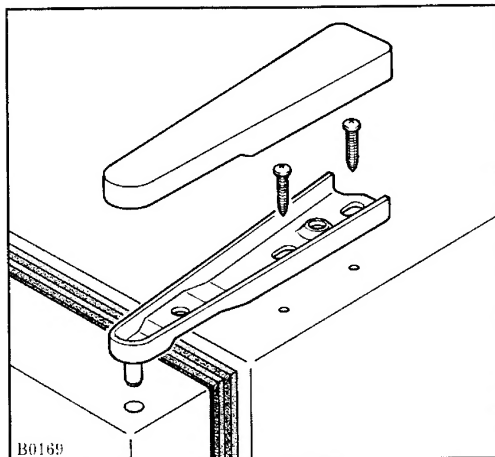

Fig. 2
- Remove the top hinge (Fig. 2) and refit it on the opposite side.